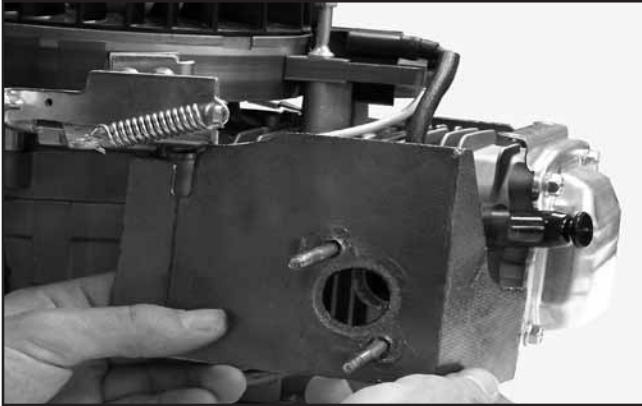

Figure 10-54. Installing Muffler Heat Deflector.
1. Install the heat deflector gasket onto the exhaust mounting studs, with the gasket folds facing the cylinder head. See Figure 10-54.